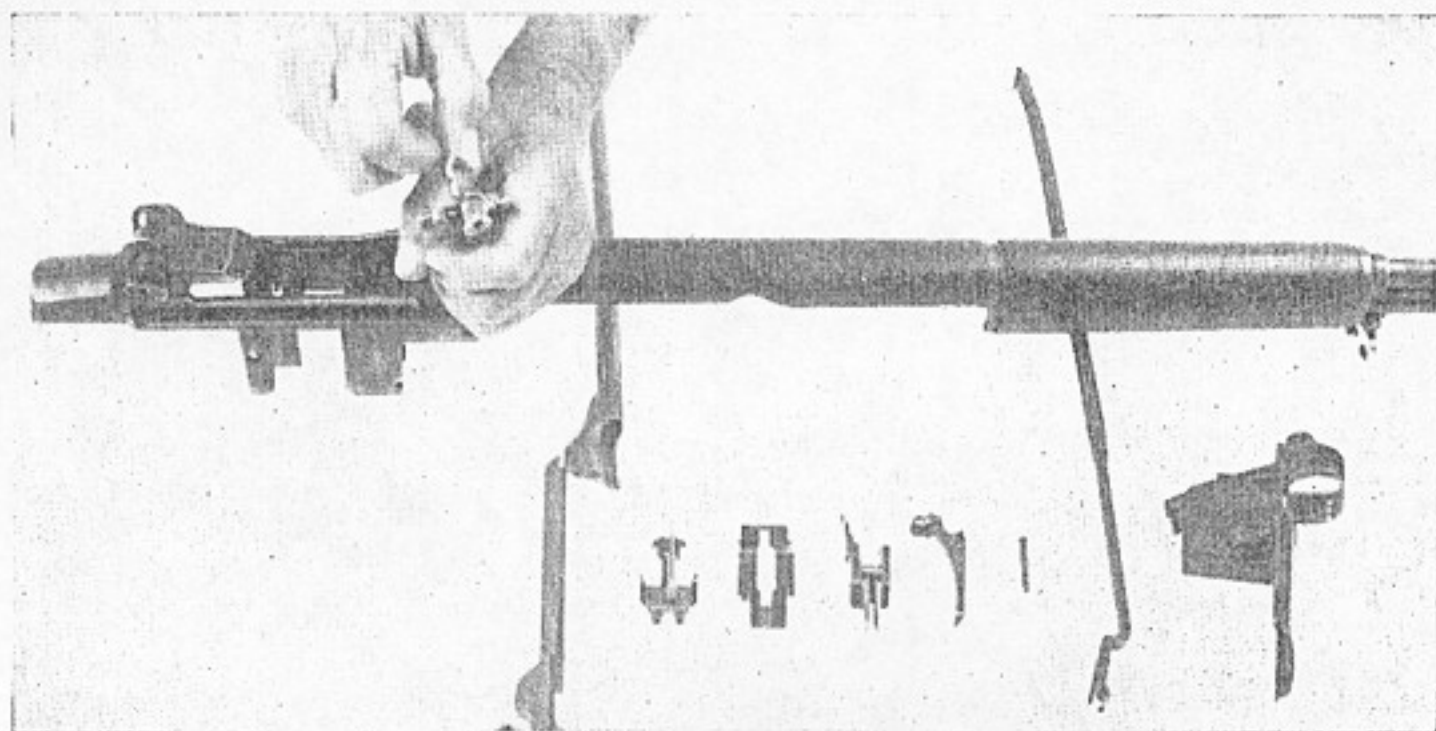

Figure 3. Removing Extractor
- (2) (Plate 11, Figure 3.) Remove the extractor.